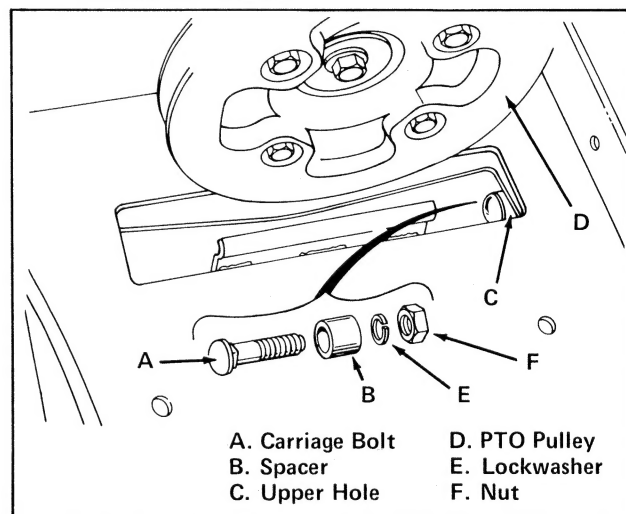

Figure 21. Installation of Spacer
1. Install a carriage bolt (item A, figure 21) and spacer (item B) to inside frame, through upper hole (item C) located below front PTO pulley (item D). The bolt head acts as a bumper for the belt.